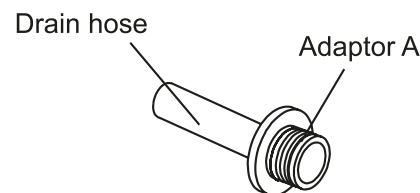

FIG. 7
- Install the drain hose onto the adaptor A (See Fig. 7, placed in the bucket).